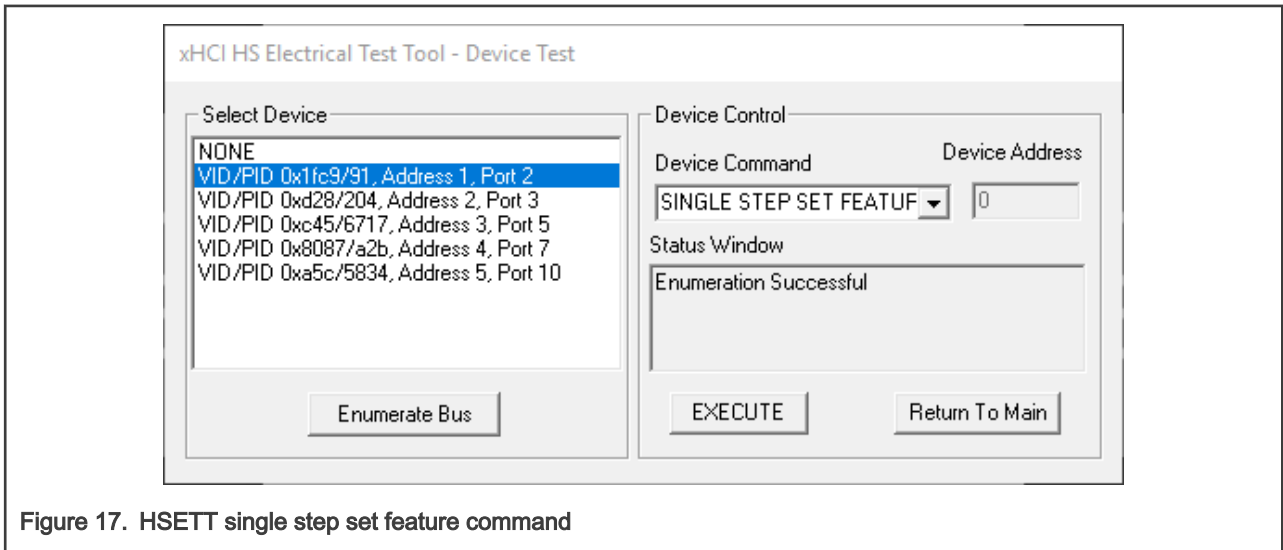

Figure 17. HSETT single step set feature command
3. To restore the device to normal operation, cycle the device power and click **Run Tests** on the oscilloscope. As shown in Figure 17, in the **Device Test** menu of the HS electrical tool, click **Enumerate Bus** once. Observe the oscilloscope and verify the SOFs packets are being transmitted on the port under test.